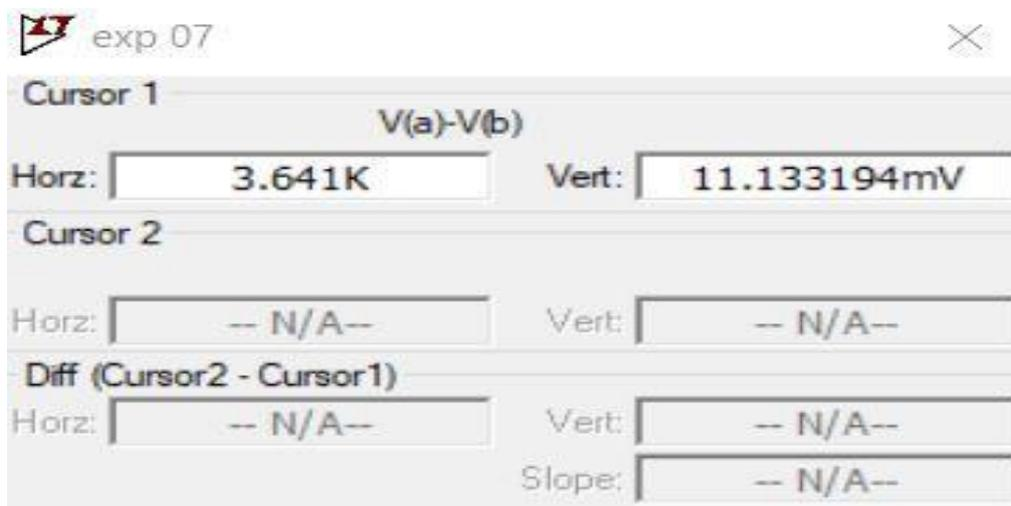

Figure: 8
- 13) Then the corresponding resistance shown in figure 8 is the equivalent resistance of the circuit with respect to node a and b.